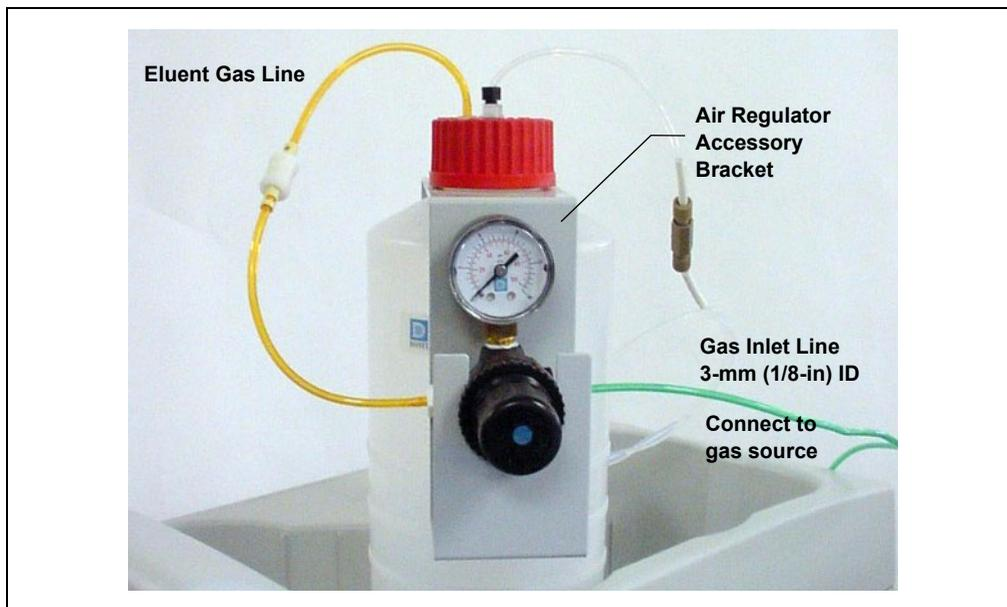

Figure B-47. ICS-1500 Pressurized Eluent Reservoir Connections (Optional)
3. Push the other end of the tubing onto the inlet of the air regulator (see Figure B-47).
6. Slip the air regulator accessory bracket over the neck of the eluent reservoir (see Figure B-47).